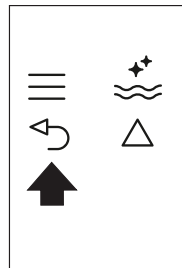

Fig. 25
- ▶ Press the **Cancel** icon (B6) (Fig. 25) twice to exit the menu.